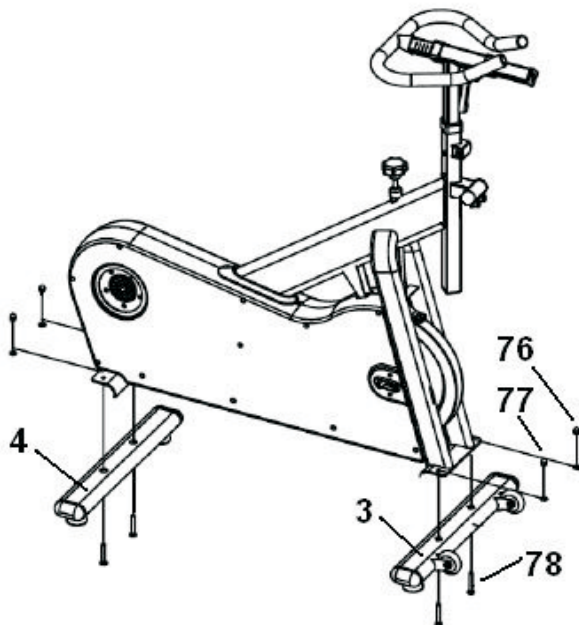

Figure 3
Securely attach the Rear Stabilizer (4) to the Main body (1) using the Washers (77), Nuts (76) and Bolts (78). Assemble the Front Stabilizer (3) positioning the wheels at the front of the unit (fig. 3) using Washers, Nuts and Bolts (77, 76 & 78) respectively.